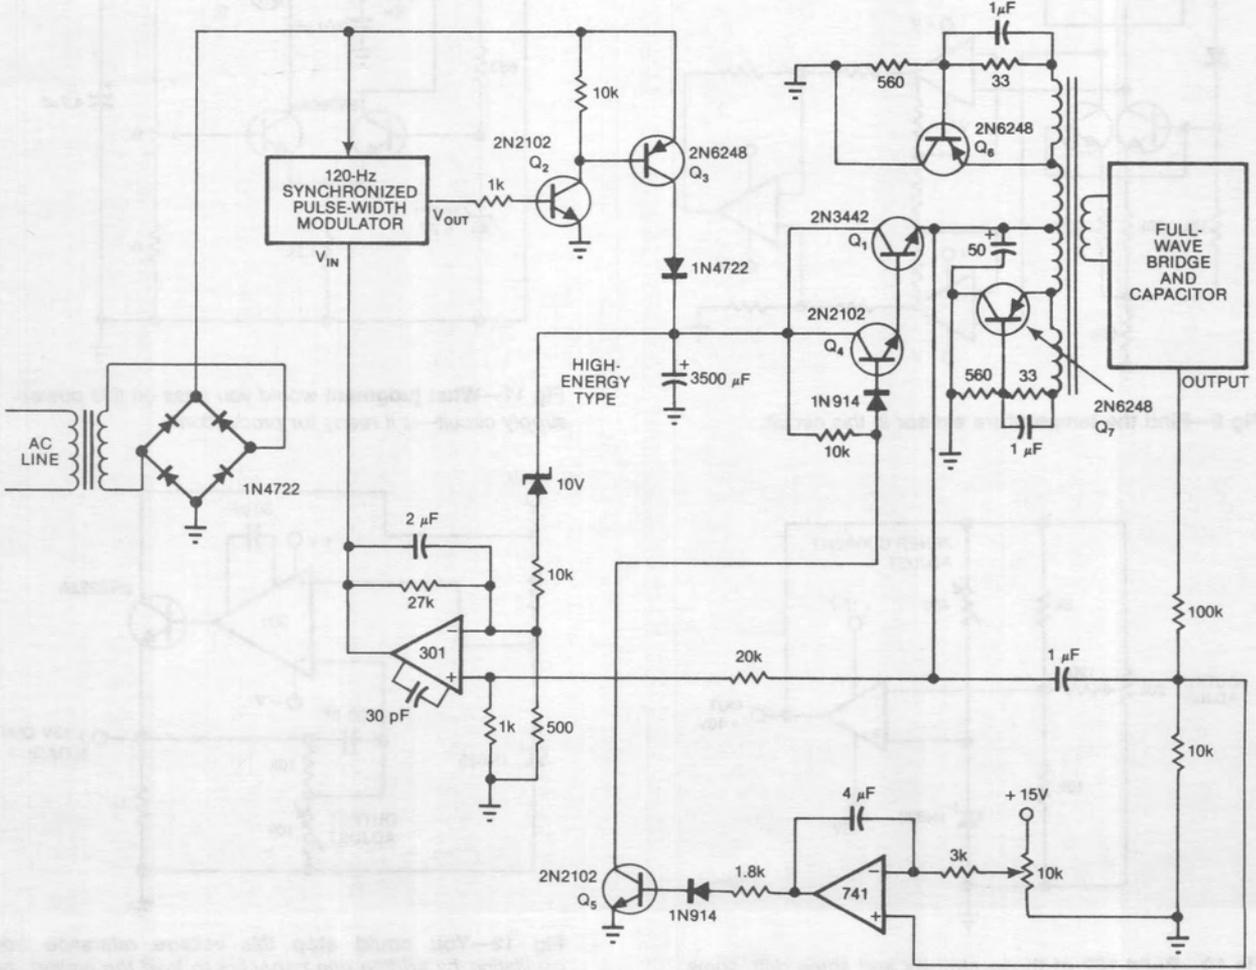

Fig 8—A dominant failure mode could exist in this circuit. Can you spot it?
12. The circuit shown in Fig 8 utilizes a line-synchronous chopper circuit to control the voltage across pass transistor  $Q_3$ , which is included in the servo loop that regulates the high-voltage output of a toroidal dc/dc converter. The chopper circuit ensures minimum dissipation in  $Q_3$ , regardless of the output-adjust potentiometer's setting. The circuit functions with all semiconductors below 125°F case temperature at full load for 30 min. The servo loop is stable under all